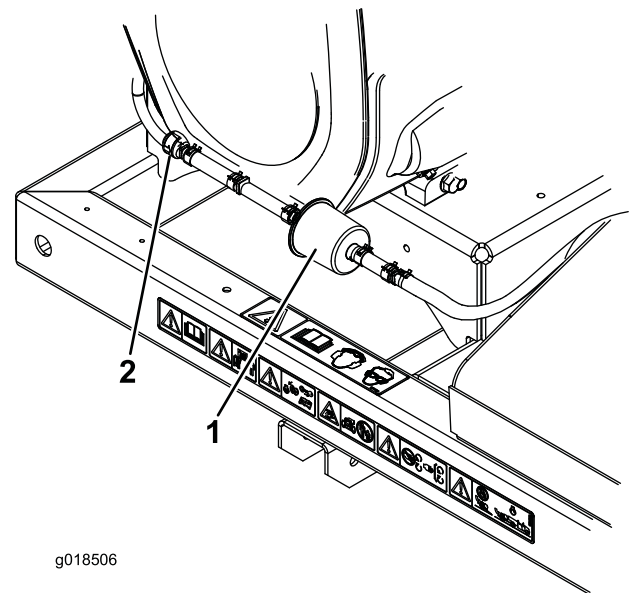

Figure 19
2. Move the spring-type hose clamps on both sides of the carbon canister purge-line filter away from the filter (Figure 19).
3. Remove and discard the carbon filter (Figure 19).
4. Install a new filter into the hose with the arrow on the filter pointing towards the check valve and secure it with the hose clamps (Figure 19).